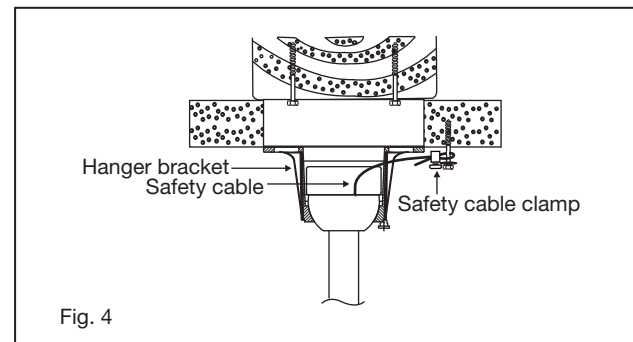

Fig. 4
- 3 Lift ball/downrod/fan into hanger bracket opening. **NOTE:** The tab opposite hanger bracket opening should fit in slot on ball. (Fig. 4)
Attach the lag bolt and flat washer to ceiling joist. Attach the safety cable to lag bolt. Slide cable clamp onto safety cable (from fan). Place the end of cable through the lag bolt. Pull as much cable through lag bolt as possible. Feed end of cable into clamp hole and firmly tighten screw (Fig. 4). Cut off excess safety cable.